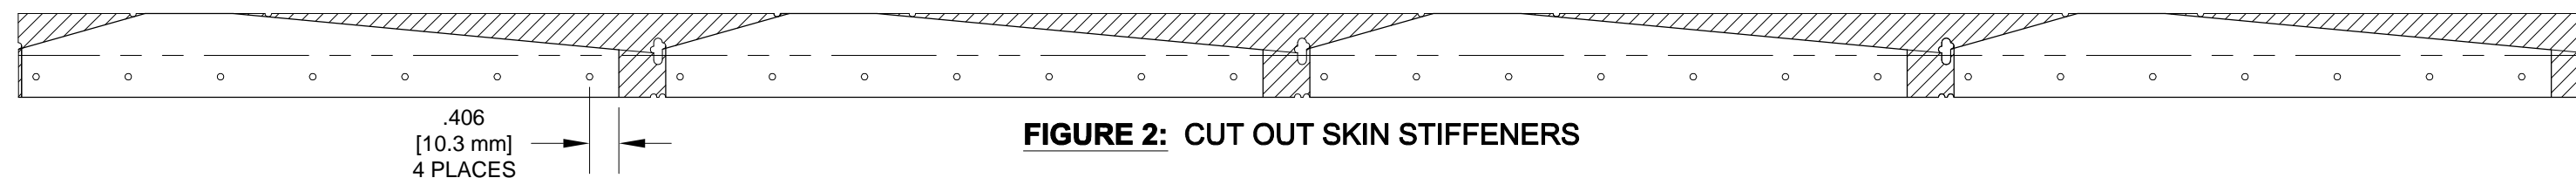

FIGURE 2: CUT OUT SKIN STIFFENERS
Step 3: Cleco the A-1001A-1L Nose Skin to the A-1004-1R Nose Ribs, A-1015-1L Inboard Nose Rib, and A-1003-1L Spar. Match-Drill #40 into the counterbalance along its length using the holes in the leading edge of the nose skin as drill guides. Start drilling at one end. Insert a cleco after each hole is drilled to prevent the counterbalance from being pushed away from the skin. Go back through and final-drill #30 these same holes. See Page 21-04, Figure 2 for hole locations.
Step 5: Final-Drill #40 all the .094 [2.4 mm] holes in the A-710 Stiffeners. Cut the stiffeners from the angle strip provided and trim as shown in Figure 2. The angle strip is shown unbent for clarity.